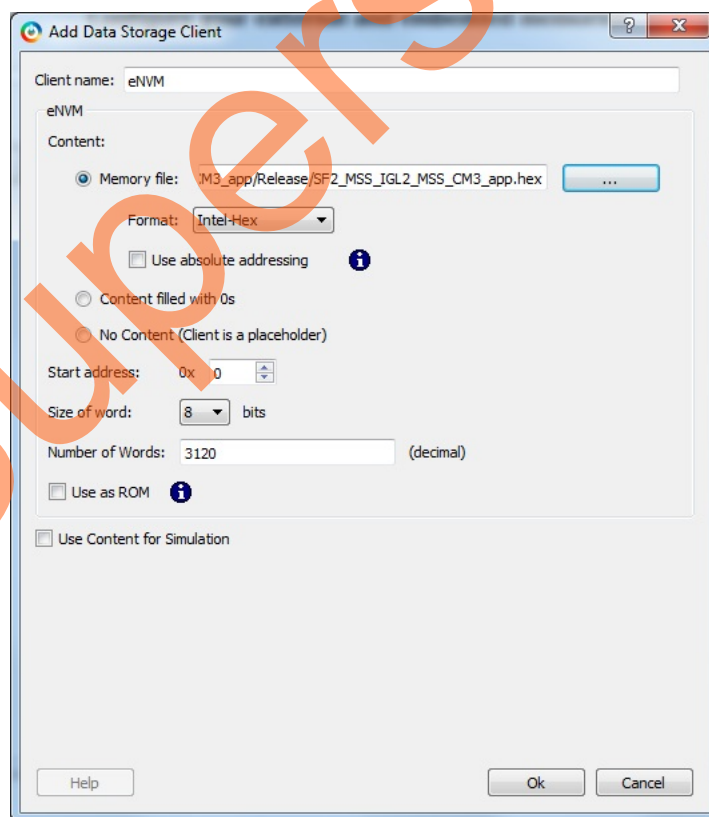

Figure 41 • Add Data Storage Client
19. Click **OK** in the **Add Data Storage Client** window as shown in Figure 41.